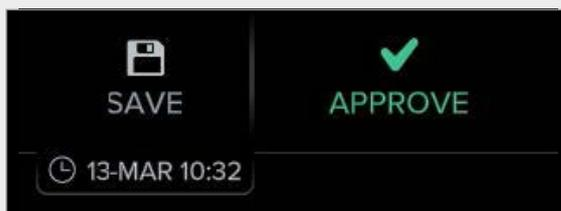

Figure 79. Save and approve buttons
### Save Button (Figure 79)
- Click on the “Save” button in the upper right corner to save changes to the type, location, and orientation of implants without approving the plan(s). Once the plan has been saved, it will be time-stamped as shown in Figure 79.
### Approve Button (Figure 79)